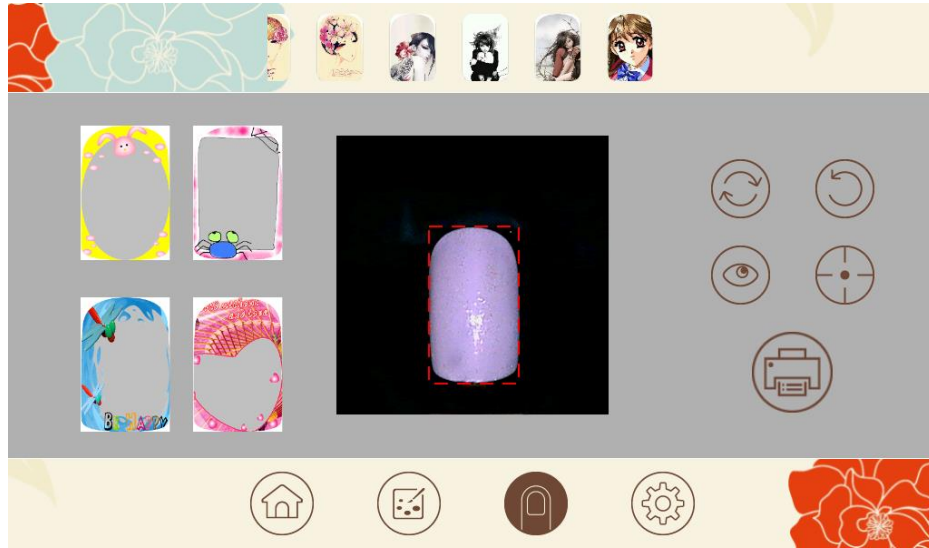

Figure 8
(1) Put your fingernail or the nail tip into the fitment and adjust correspondingly through the visible area of the interface, as shown in Figure 8.